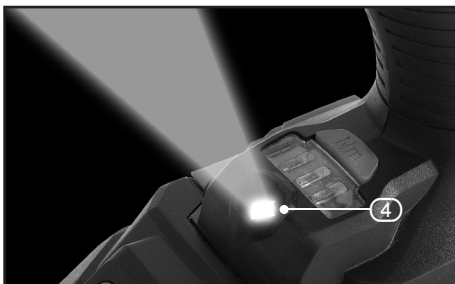

FIG.8
- Locate the clip (6) in position and fasten with screw (6.1) supplied, take care to not overtighten and strip the thread.
9.5 LED WORKLIGHT – FIG.8